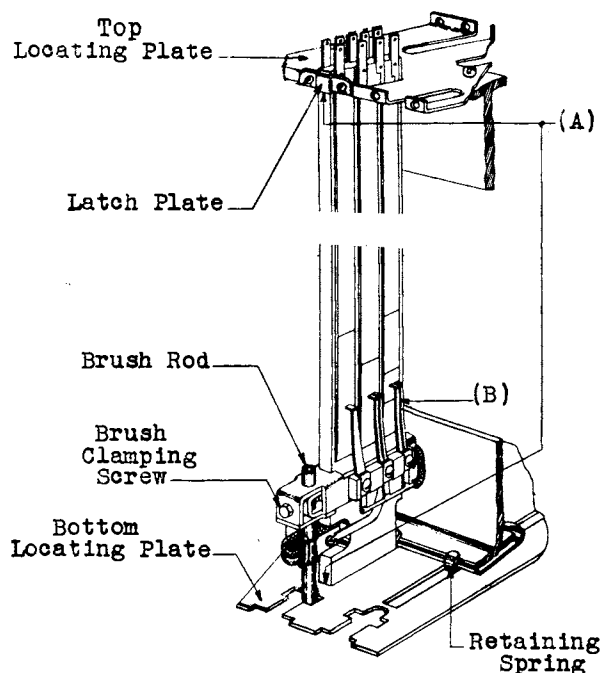

Fig. 2
- 2.04 Mounting - Fig. 2 (A) - The lower commutator retaining spring and the upper commutator latch plate shall hold the commutator firmly at top and bottom. Side play within the limits of the plate opening is permissible at the bottom. Gauge by feel.
- 2.05 Spring Clearance - Fig. 2 (B) - The two springs of any pair shall not bind on each other when either of the